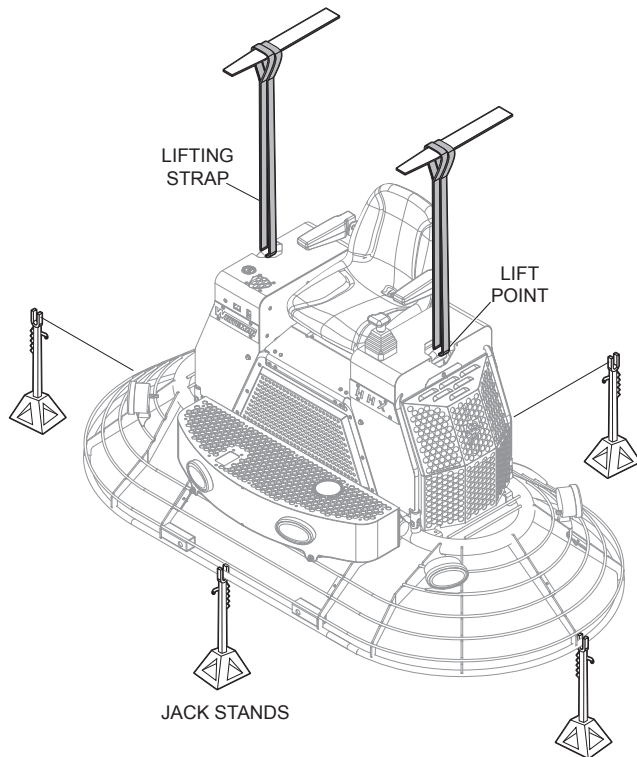

Figure 2. Lifting the Trowel
1. Send a lifting strap or chain through the lift points on each side of the trowel. Attach the ends of the lifting strap or chain to the lifting device (Figure 2).